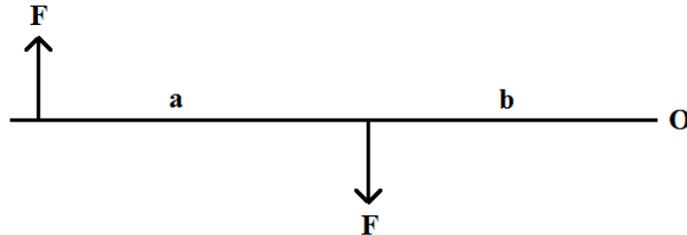

Figure 2
In Figure 2, the line of action of the force is represented by the dotted line. The perpendicular distance between the line of action and the axis (at O) is OA or AO . Hence, the moment (M_F) of the force (F) = Force (F) \times the perpendicular distance from the axis (AO) = $F \times AO$ (or $M_F = F \times AO$). Since the units of measure for force and distance are a Newton (N) and metre (m), respectively, then the unit of measure for a moment is a Nm (i.e. $N \times m$).
The moment of the force in Figure 2 is clockwise. Usually, clockwise moments are considered positive while anti-clockwise ones, negative.